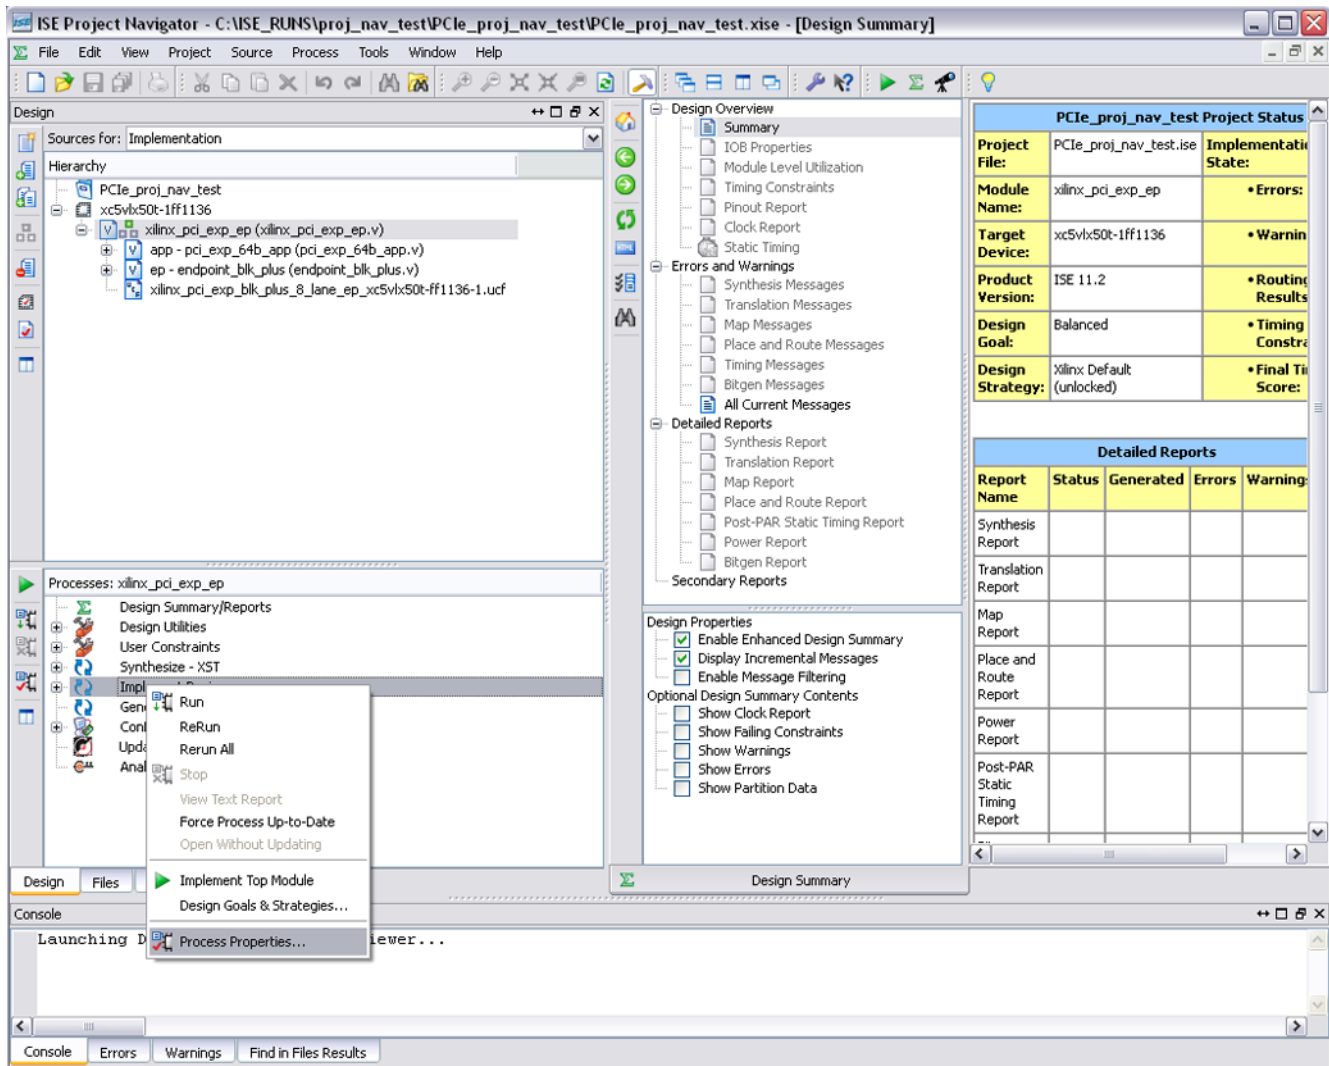

Figure 3-11: Processes Window: Implement Design Properties
9. In the Processes window, right-click Implement Design process and select Properties, as shown in Figure 3-11. The Process Properties dialog box appears.